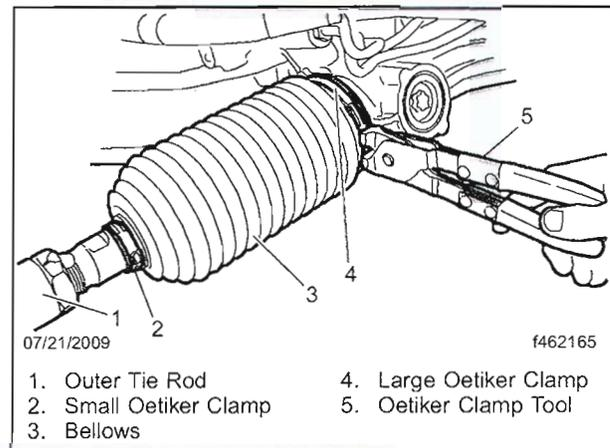
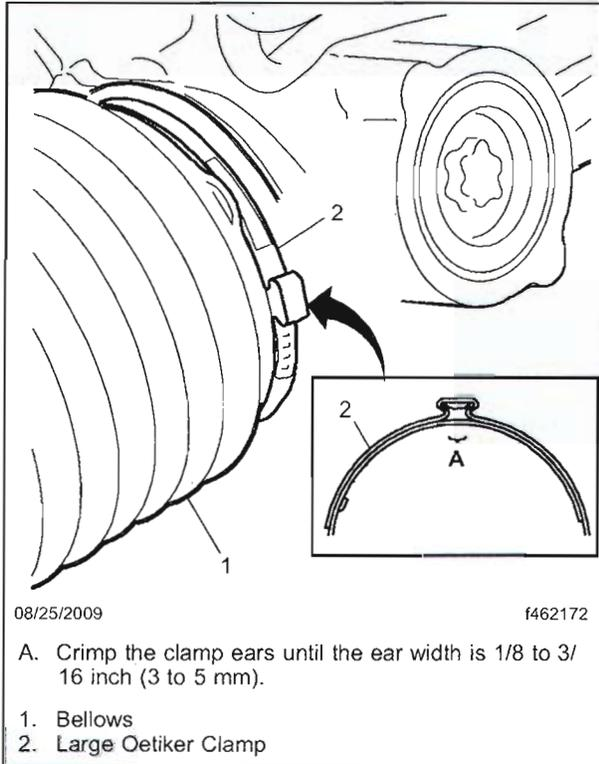

Fig. 8, Oetiker Clamp Installation
Fig. 9, Oetiker Clamp Ear Width
27. Using an Oetiker clamp tool, crimp the large Oetiker bellows clamp ear until the inner ear width is 1/8 to 3/16 inch (3 to 5 mm). See Fig. 8 and Fig. 9.